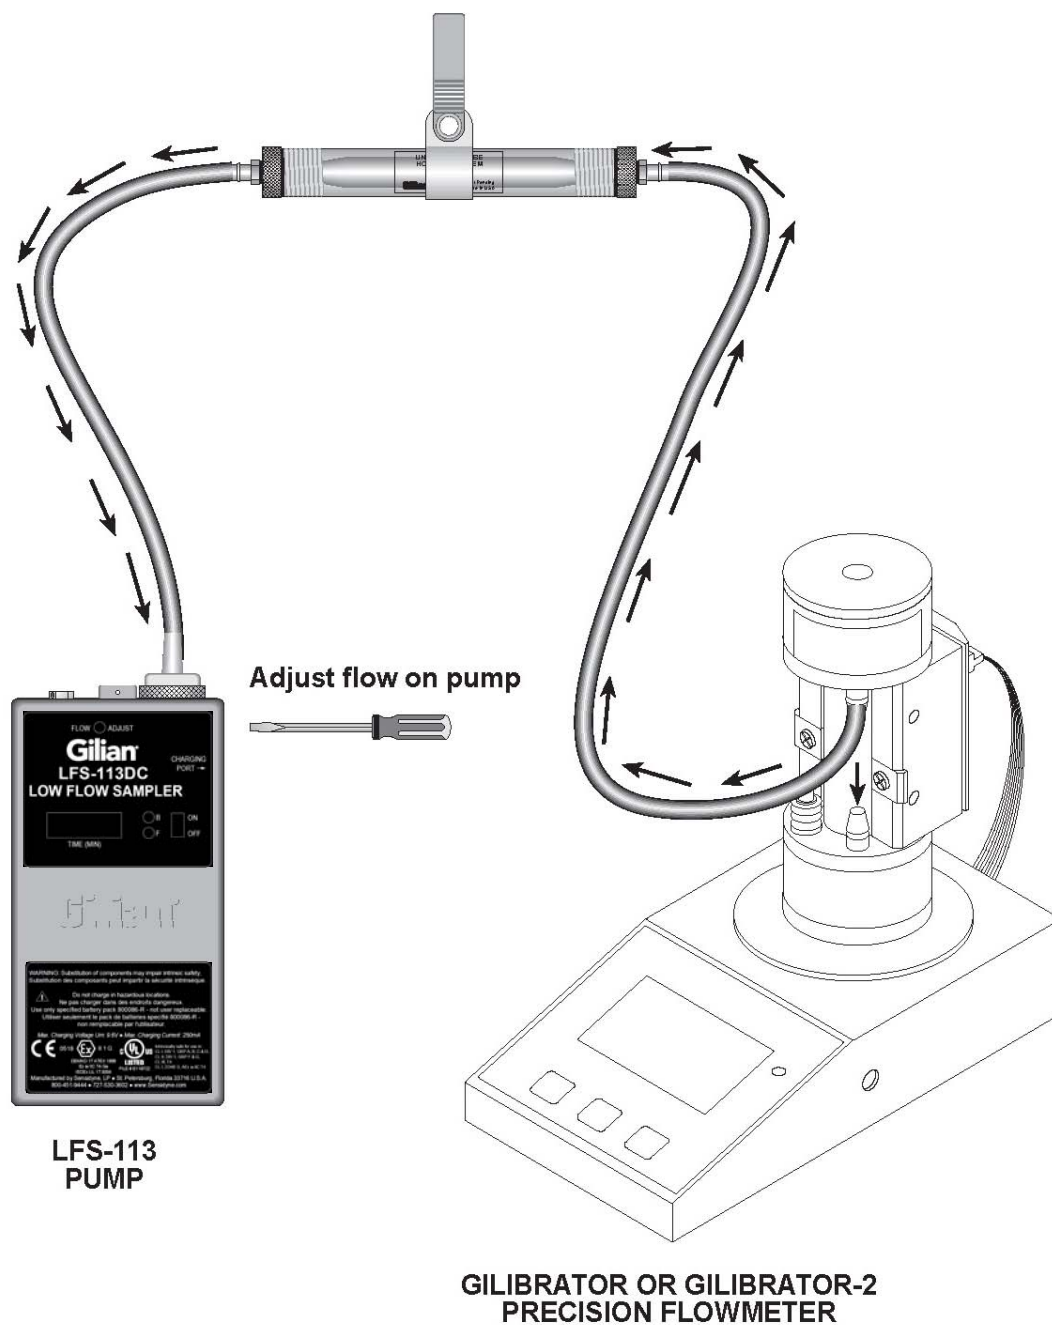

Figure 6
- 8) It is best to calibrate the sampling pump's air flow rate while a sorbent tube is installed and a rotameter, film flowmeter, or Gilibrator-2 Calibrator is installed in-line (refer to Figure 6).